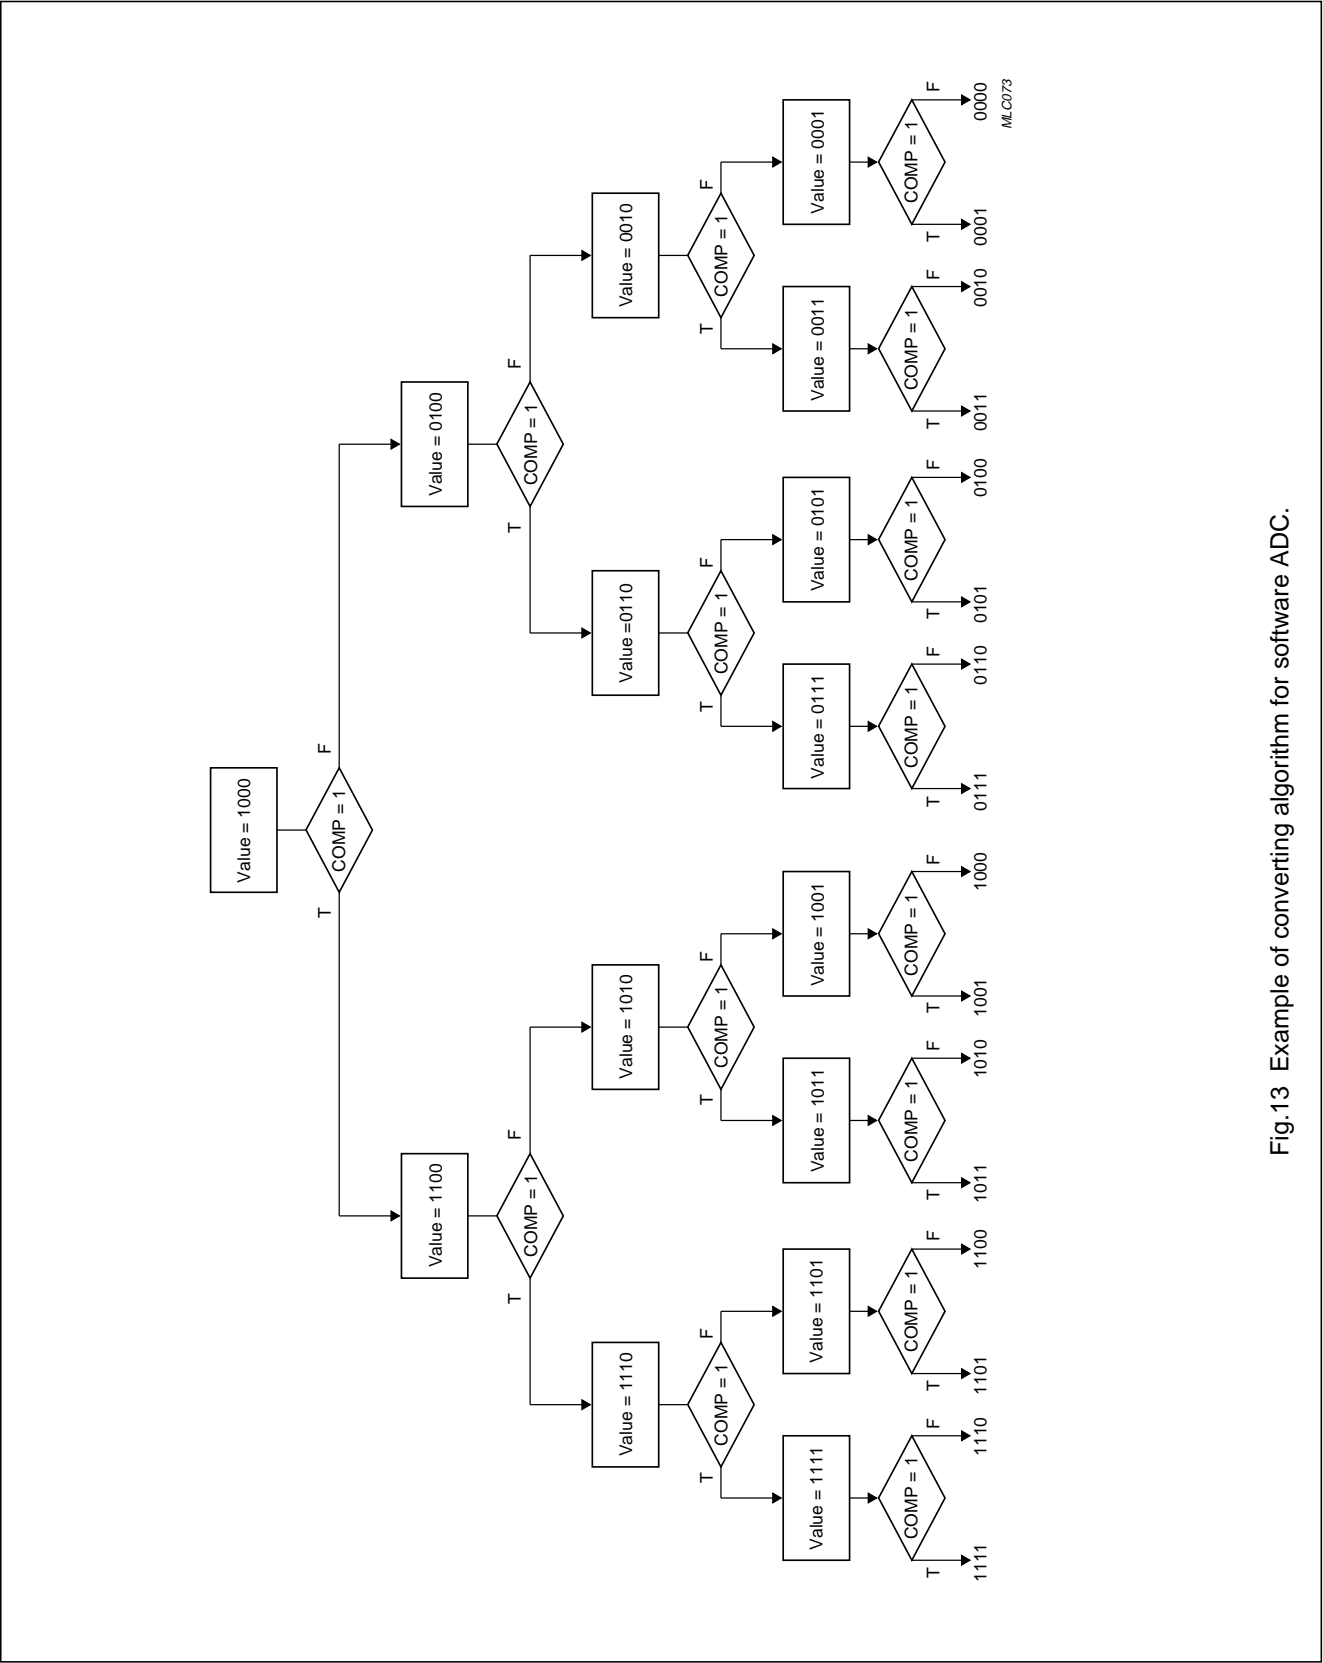

Fig.13 Example of converting algorithm for software ADC.
There are many algorithms available to achieve the ADC conversion. The algorithm described below and shown in Fig.13 uses an iteration process.
9. The operations detailed in 6, 7 and 8 above are repeated and each time the digital input to the DAC is changed accordingly; as dictated by the state of the COMP bit. The complete process is shown in Fig.13. Each time the DAC input is changed the number of values which the analog input can take is reduced by half. In this manner the actual analog value is honed into. The value of the analog input (V_A) is determined using Equation (4):